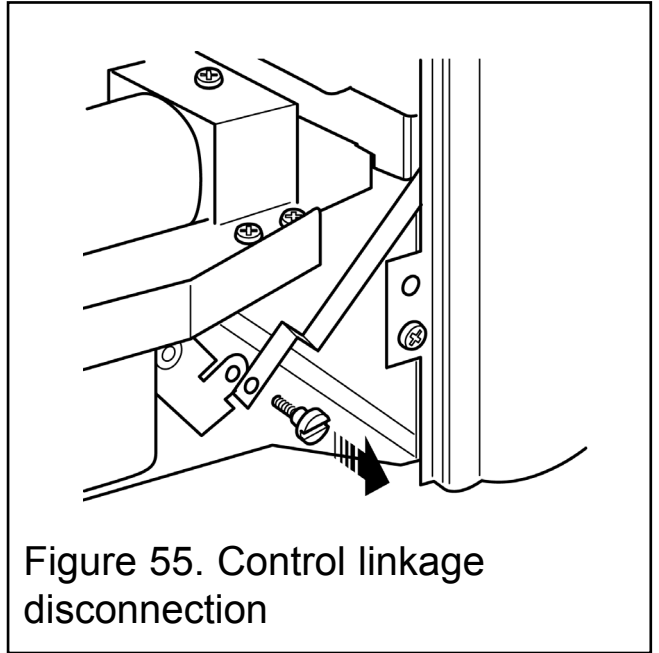

Figure 55. Control linkage disconnection
2. Detach the control-linking bar from the control pivot bracket by removing the knurled screw, which joins the control linking bar to the control pivot unit. See figure 55.